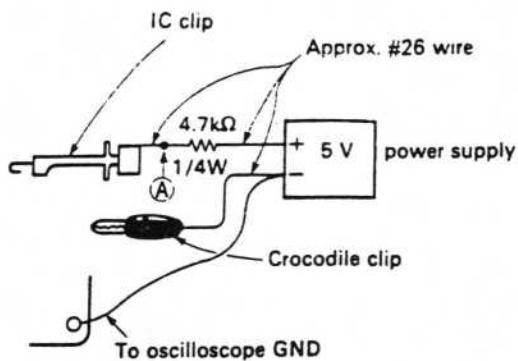
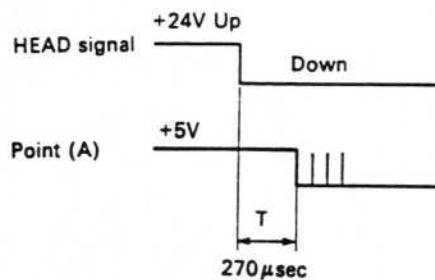

Fig. 3
Fig. 4
- (4) Prepare a jig as in Fig. 3
- (5) Set a PCB soldered on both sides on the PCB stand.
- (6) Attach the IC clip to the needle and the crocodile clip to the soldered board.
- (7) Observe the I/O board TrA4-7 pin (HEAD signal) and point **A** in Fig. 3 on the oscilloscope.
- (8) Switch on the + 5 V power supply.
- (9) Turn on the main unit power for the system, switch to TEACHING mode, switch ON/OFF the HEAD SW on the main unit operation panel and operate HEAD DOWN/UP.
- (10) The waveform for each signal will appear on the oscilloscope as in Fig. 4. Adjust the dispenser head speed controller **⑤** so that $T = 270 \mu\text{sec}$.